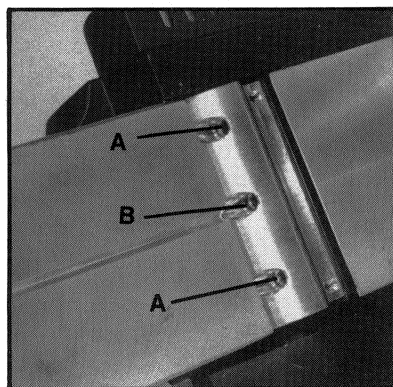
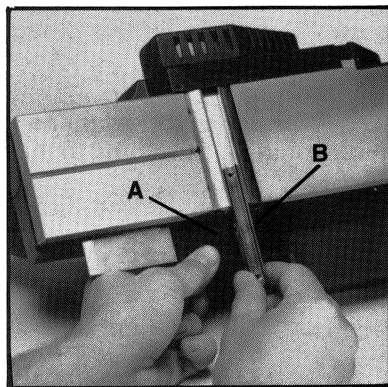
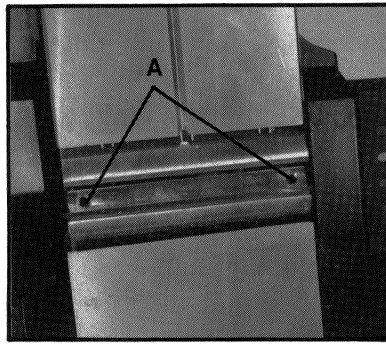

Fig. 8
Fig. 9
Fig. 12
When making rabbet cuts, the blades must be adjusted so that the right end of both blades is even with the right side of the front shoe. Slightly loosen clamp screws (A and B) Fig. 8, and use a wood block to slide blade (in pressure bar assembly) to align. Tighten clamp screws securely. Repeat above to align second blade.
1. Use the Allen wrench furnished with the plane to loosen the two outer clamping screws (A) Fig. 8, approximately one revolution each.
2. Loosen the center clamping screw (B) Fig. 8, approximately three revolutions.
3. While depressing cutter guard (A) Fig. 9, slide the pressure bar assembly (B) Fig. 9, out of the cutter head.
3. Depress cutter guard (A) Fig. 9, and slide blade and pressure bar assemblies into cutter head, firmly tightening the cutter head screws (A and B) Fig. 8, to secure in place.
Normally, no further adjustment is required; however, two adjustment screws (A) Fig. 12, are provided in each pressure bar. If realignment becomes necessary, slightly loosen the clamping screws (A and B) Fig. 8, and make appropriate adjustment to screws (A) Fig. 12. Firmly tighten clamping screws.